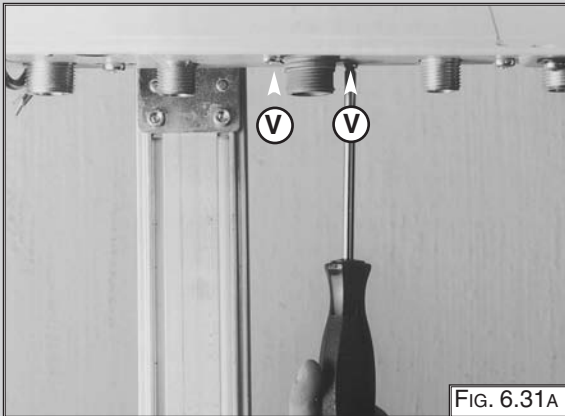

FIG. 6.31A
4. Remove the screws "V" from the bottom of the gas valve (FIG. 6.31A);